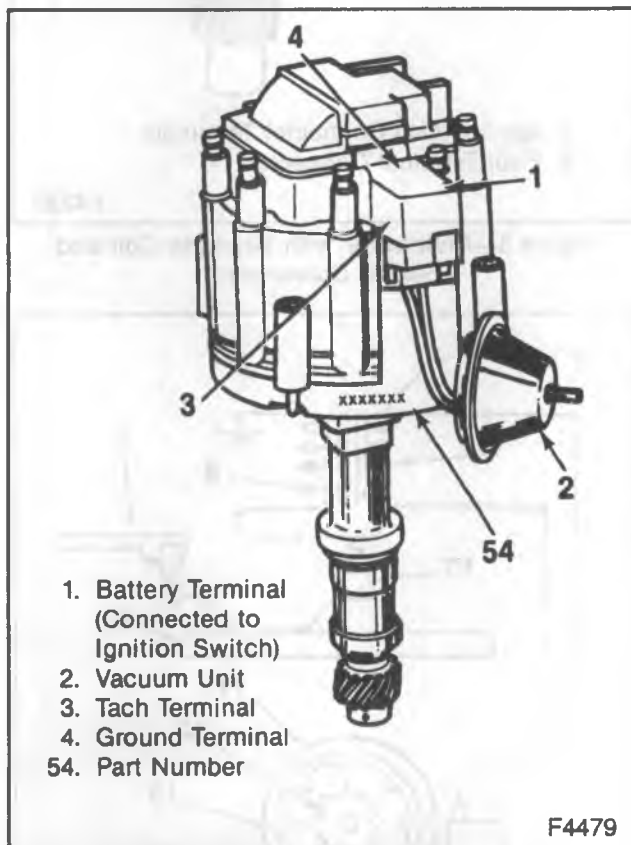
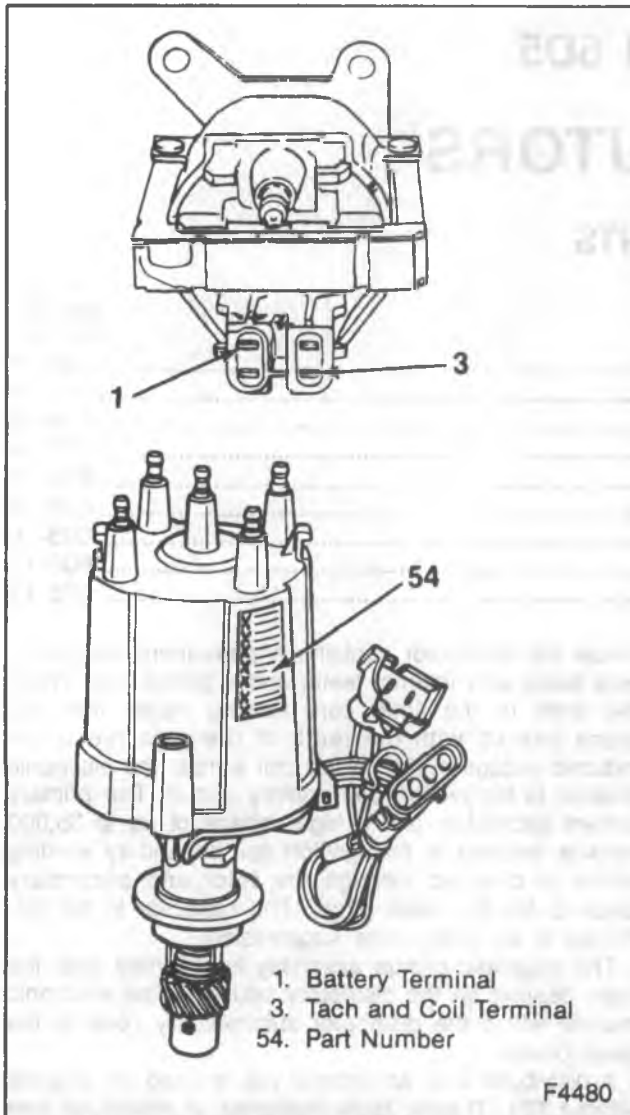
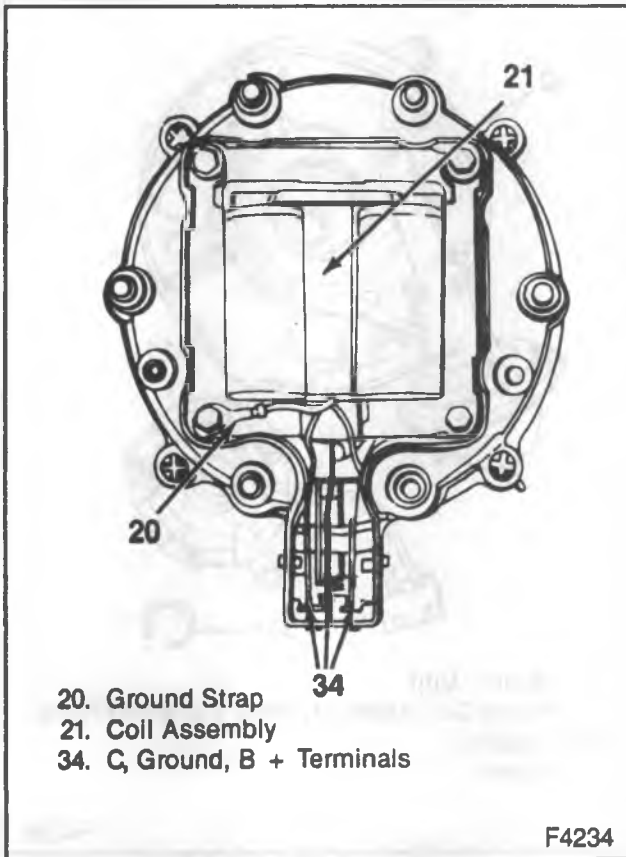
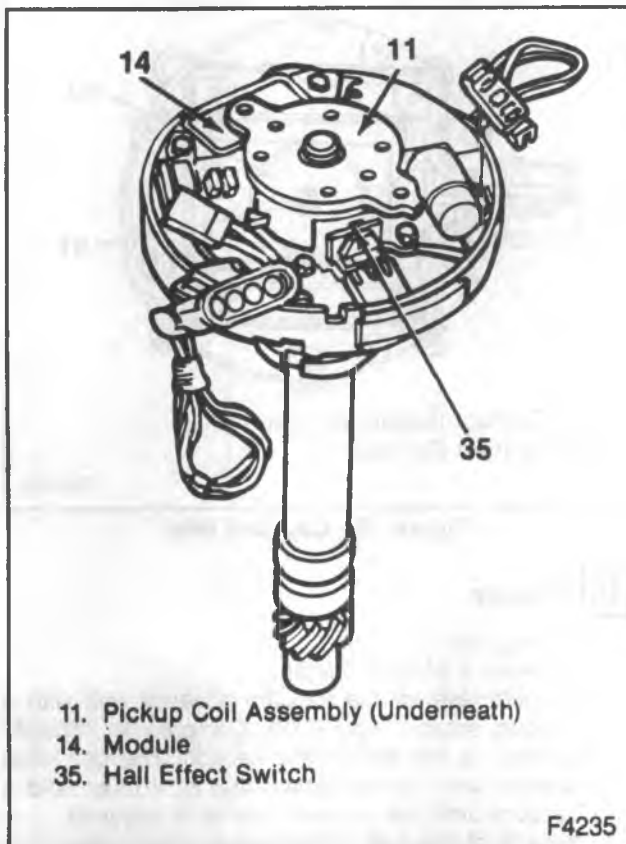

Figure 1—Distributor with Integral Coil
Figure 2—Distributor with Separate Coil
Figure 8—Ignition Coil
Figure 9—Distributor with Hall Effect Switch
This distributor is a magnetic pulse triggered, transistor controlled, inductive, discharge distributor (figures 1 through 4). The magnetic pickup assembly located
On a distributor with an integral coil, the part number (seven digits) is tamped on the distributor housing (figure 1). On a distributor with a separate coil, it is located on a label on the distributor cap (figure 2).
1. Wiring harness connector from the ignition coil terminal connector (figure 1).
3. Cover attaching bolts (32) and the cover (19) from the cap.
4. Four attaching bolts from the coil (21).
5. Coil wires from the connector housing with needle nose pliers (figure 8).
7. Arc seal (22) and the ground wire (20) from the cap (23).
8. Two bolts (32) holding the rotor (10) to the shaft (26).
11. Hall Effect switch (35) if equipped (figure 9).
2. Coil (21) and wiring into the cap (figure 8).
4. Cover (19) to the cap (23) with two bolts.
5. Lubricant into the lube cavity of the housing (30) only if needed.
6. Vacuum unit (2) if equipped or plastic retainer.